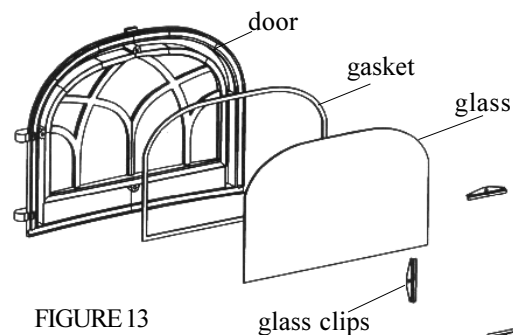

FIGURE 13
6. Center the new glass panel over the gasket and reinstall the glass clips. See figure 13